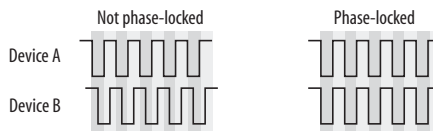

Figure 4-6: When transferring audio, two devices must have phase-locked audio clocks to prevent clicks, pops or other artifacts.
- Synchronizing the 896mk3 with other digital audio devices so that their digital audio clocks are *phase-locked* (as shown in Figure 4-6)